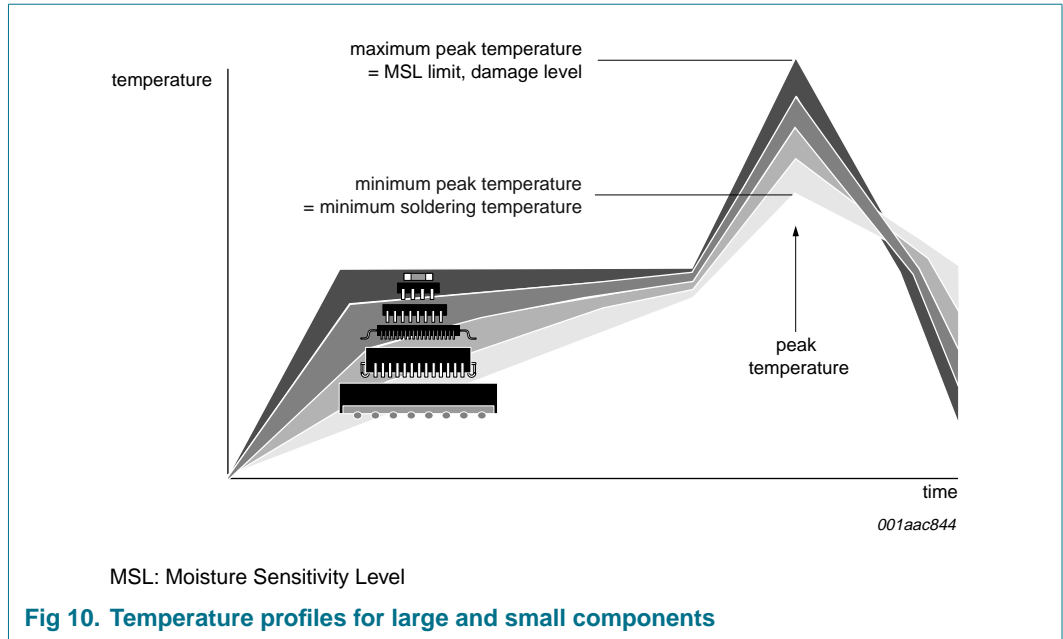

Fig 10. Temperature profiles for large and small components
- Lead-free versus SnPb soldering; note that a lead-free reflow process usually leads to higher minimum peak temperatures (see Figure 10) than a PbSn process, thus reducing the process window
Studies have shown that small packages reach higher temperatures during reflow soldering, see Figure 10.